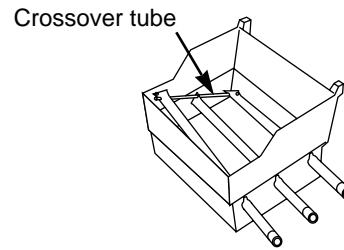

Figure 24
- g) Lift and twist the burner assembly slightly, to separate the crossover tube from the burners. Figure 24. Remove the burners from the cooking box.